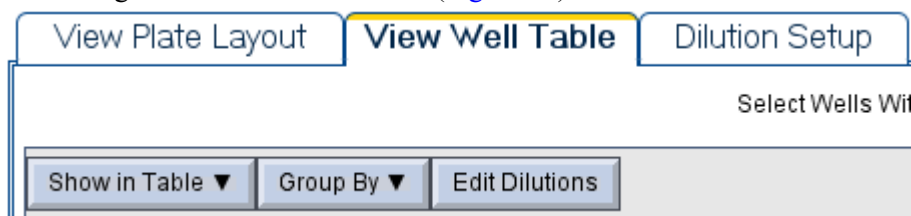

Figure 34 Edit Dilutions button
3. In the toolbar at the top of the well table, click **Edit Dilutions** (Figure 34) to open the Edit Target Dilution Details screen (Figure 35).